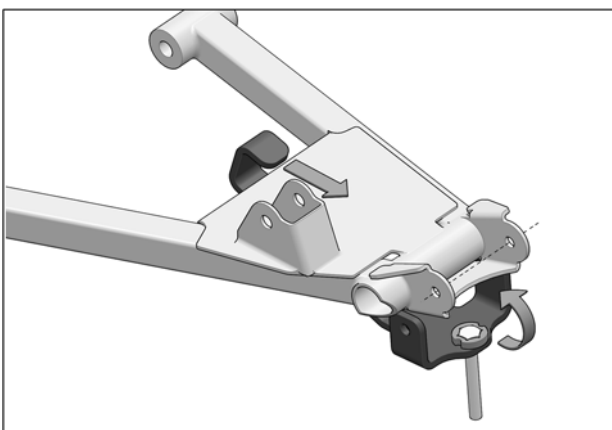

Fig. 7
7. Hook rear of anchor bracket on reinforcing plate of suspension arm while pivoting front upward and align anchor bracket bolt holes with suspension arm bolt holes. See Fig. 7